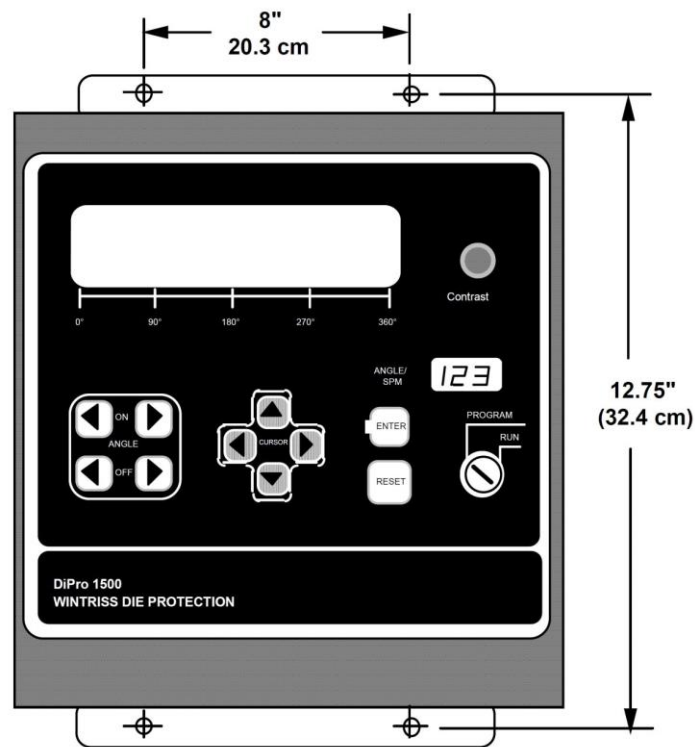

Figure 2-4. DiPro mounting dimensions (for control enclosure)
2. Drill holes for mounting (see dimensions in Figure 2-4). Shock mount studs are 1/4–20. Tap holes (if necessary) and mount the enclosure using the enclosed shock mounts. Use a No. 7 drill and 1/4–20 tap.